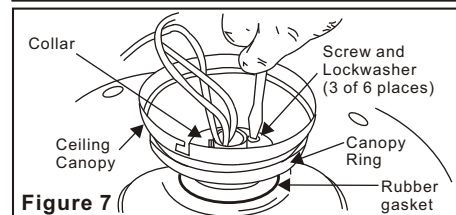

Figure 7
8. Remove three of the six screws and lock washers (every other one) from the collar of top motor (Figure. 7)
9. Place the rubber gasket over the remaining three screws, route the wires exiting the top of the fan motor through the canopy ring (make sure the slot openings of the ring are on top). then proceed to place the ceiling canopy over the collar at the top of the motor. Align the mounting holes with the holes in the motor and fasten using the screws and lock washers provided (Fig. 7).
10. Tighten the mounting screws securely. (Fig. 7)